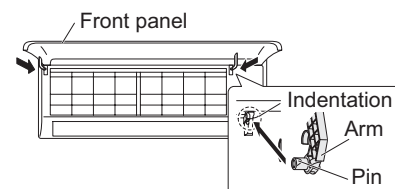

Fig. 2-211
- (1) While aligning the top edge of the grille with the frame, move the grille horizontally and insert the top and bottom into the frame.
- (2) Press the grille firmly with your hand to ensure no gap exists between the frame and grille.
- (3) Tighten the 6 screws. And fix the removed covers in place.
- (4) Grasp the sections near the front panel arms on both sides, and hold the front panel so that it is nearly horizontal. Push the arm shafts towards the outside so that they come into contact with the top of the indentations on the right and left sides of the air conditioner. Then push firmly until the arm shafts click into place. (Fig. 2-211)
- (5) Remount the lower flap.